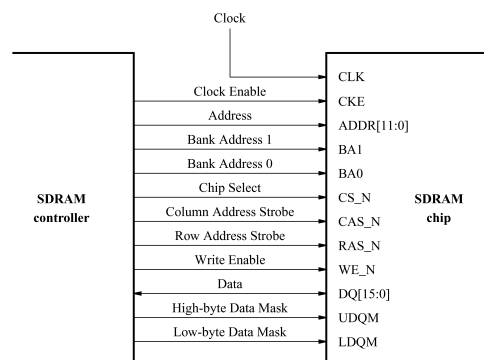

Figure 2. The SDRAM signals.
The SDRAM chip on the DE0-Nano board has the capacity of 256 Mbits (32 Mbytes). It is organized as 4M x 16 bits x 4 banks. The signals needed to communicate with this chip are shown in Figure 2. All of the signals, except the clock, can be provided by the SDRAM Controller that can be generated by using the Qsys tool. The clock signal is provided separately. It has to meet the clock-skew requirements as explained in section 7. Note that some signals are active low, which is denoted by the suffix N.
The Qsys tool generates an HDL file for the system, which can then be instantiated in a VHDL file. The augmented VHDL entity generated by the Qsys tool is in the file *nios_system.v* in the *nios_system\synthesis* directory of the project. Figure 7 depicts the portion of the code that defines the input and output signals for the entity *nios_system*. As in our initial system that we developed in the introductory tutorial, the vector that is the input to the parallel port *Switches* is called *switches_export*. The output vector is called *leds_export*. The clock and reset signals are called *clk_clk* and *reset_reset_n*, respectively. A new entity, called *sdram*, is included. It involves the signals indicated in Figure 2. For example, the address lines are referred to as the **output** vector *sdram_wire_addr[12:0]*. The data lines are referred to as the **inout** vector *sdram_wire_dq[15:0]*. This is a vector of the **inout** type because the data lines are bidirectional.
A first attempt at creating the new entity is presented in Figure 8. The input and output ports of the entity use the pin names for the 50-MHz clock, *CLOCK_50*, pushbutton switches, *KEY*, dip switches, *SW*, and green LEDs, *LED*, as used in our original design. They also use the pin names *DRAM_CLK*, *DRAM_CKE*, *DRAM_ADDR*, *DRAM_BA*, *DRAM_CS_N*, *DRAM_CAS_N*, *DRAM_RAS_N*, *DRAM_WE_N*, *DRAM_DQ*, and *DRAM_DQM*, which correspond to the SDRAM signals indicated in Figure 2. All of these names are those specified in the DE0-Nano User Manual and included in the file called *DE_Nano.qsf*, which can be found on Altera's DE0-Nano web page at <https://www.altera.com/support/training/university/boards.html>
--           SDRAM ports correspond to the signals in Figure 2; their names are those